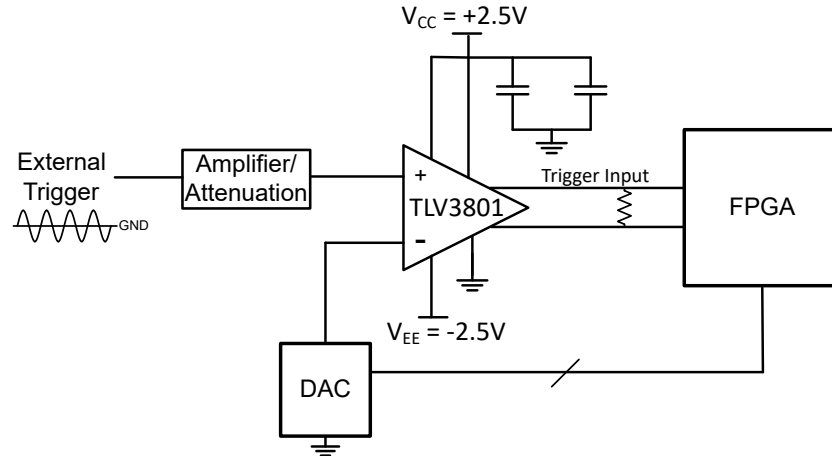

Figure 8-6. External Trigger Function
Figure 8-6 is a typical configuration for creating an external trigger on oscilloscopes. The user adjusts the trigger level, and a DAC converts this trigger level to a voltage the TLV3801/TLV3811(C) can use as a reference. The input voltage from an oscilloscope channel is then compared to the trigger reference voltage, and the TLV3801/TLV3811(C) sends an LVDS signal to a downstream FPGA to begin a capture. It is common to see bipolar inputs in test and measurement systems such as oscilloscopes; therefore, the TLV3801 can be configured in split supply so that the inputs are in the allowable input voltage range.